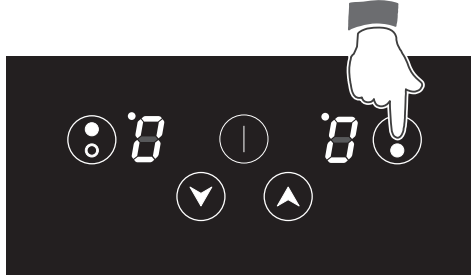

Fig. 2.3
- Select a cooking zone by touching the relevant key of the cooking zone to be used (fig. 2.3).
- Press the key ② and keep it pressed until the desired power level, ranging between 1 and 9 is set. As an alternative, press the key ③. The choice starts from level (maximum level) down to (minimum level).
- To reset the power level press the key ④ and keep it pressed until power level zero (0).